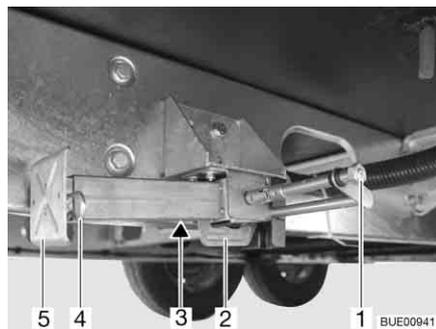

Fig. 44 Steady leg
- Place the socket spanner on the hexagon nut (Fig. 44,1) and rotate until the steady leg is in a perpendicular downward position.
- If the length of the steady leg can be adjusted, remove the splint (Fig. 44,4) out of the support foot extension (Fig. 44,5).
- Place the socket spanner on the hexagon nut (Fig. 44,1) and rotate until the steady leg is clear of the ground.
- Push in the support foot extension (Fig. 44,5) and insert the splint (Fig. 44,4) in the drilled hole in the support foot extension.
- Rotate the hexagonal nut (Fig. 44,1) until the steady leg has swung upwards and the guide (Fig. 44,2) has reached the very end of the slot (Fig. 44,3).